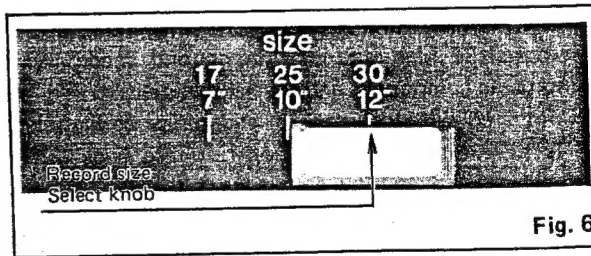

Fig. 6
2. Set the record size select knob to the diameter of the record (7" (17 cm), 10" (25 cm) or 12" (30 cm)) you wish to play (See Fig. 6.)